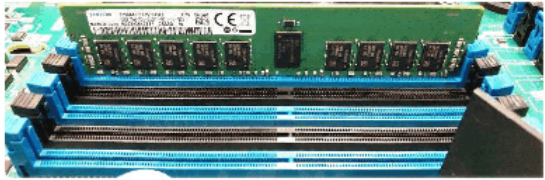

Figure 88. Installing the DIMM
13. Insert the DIMM into the connector by aligning the edges of the DIMM with the slots at the ends of the DIMM connector, as shown in Figure 88 on page 138.